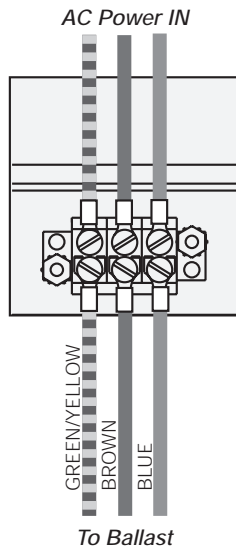

Figure 1. Power Connection for Backlighting Option
3. Use the screws and nuts provided to attach the ballasts to the flip digit mounting panel (see Figure 1). Wrap the 8-inch plastic ties around the ballasts to secure the ballast covers to the bases.
5. Insert the lock washers provided between the ballast and power supply wire pairs and reconnect wires to AC power terminal (see Figure 1). Tighten screws and replace plastic cover on power terminal.